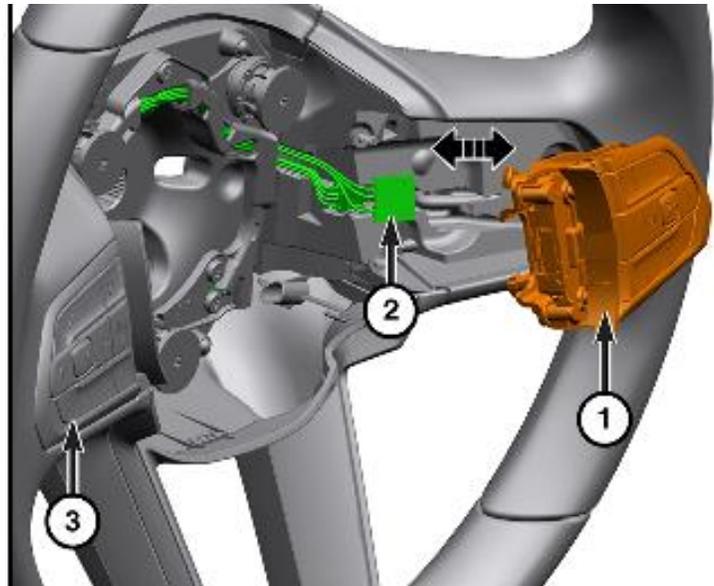

Figure 3 – Electrical Connector
10. Using a trim stick or equivalent, release the retainers on the back of the speed control switch from the steering wheel (3).
11. Disconnect the wire harness connector (2) from the speed control switch (1) (Figure 3).